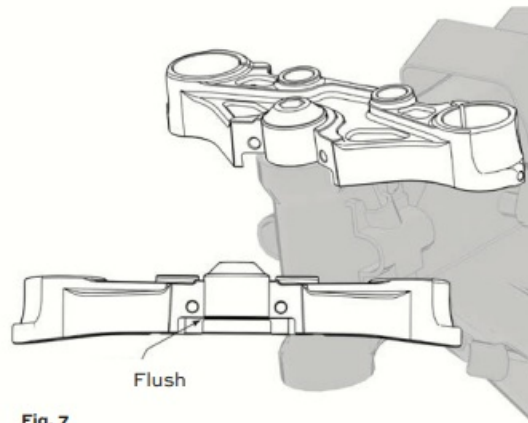

Fig. 7
12. Ensure the top nut is flush with the bottom of the tree. (See fig. 7)